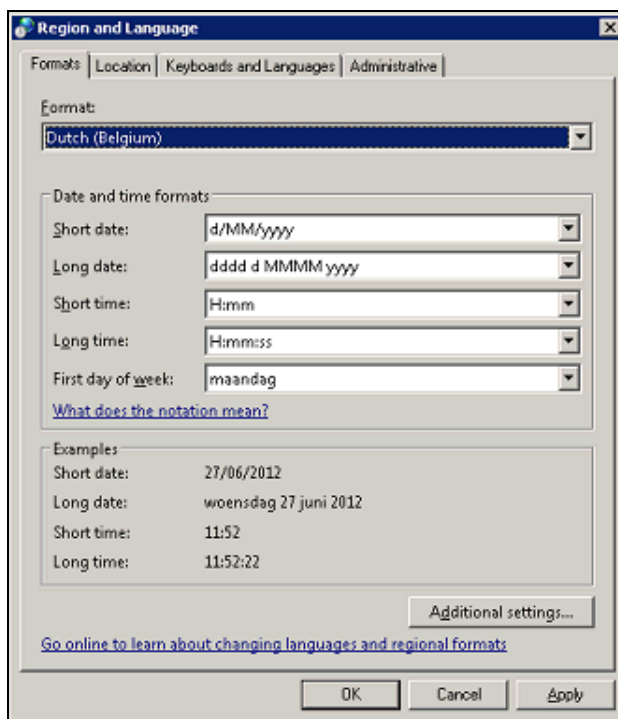

Figure 1
- (8) Return to the **<Region and Language>** window.
- (9) Click the **<Additional Settings>** button, see Figure 1.
- (10) In the **<Numbers>** tab of the **<Customize Format>** window, change the decimal symbol if required: type a comma (",") or period ("."), depending on the language you are working in.